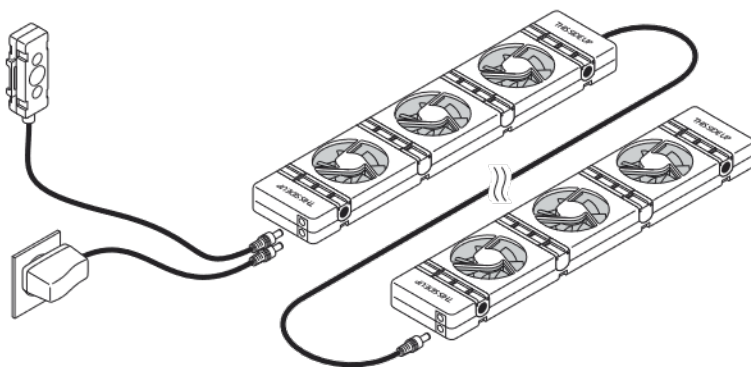

Fig. 4 - Connect additional SpeedComforts (A).
6. On long radiators, connect additional **SpeedComforts (A)** with the 30 cm **connecting cables (F)** (see fig. 4). Multiple **SpeedComforts (A)** (up to 20) can be connected to one **power adapter (D)**. Additional **temperature sensors (E)** are not required. The Duoset and the Trioset include several **SpeedComforts**.